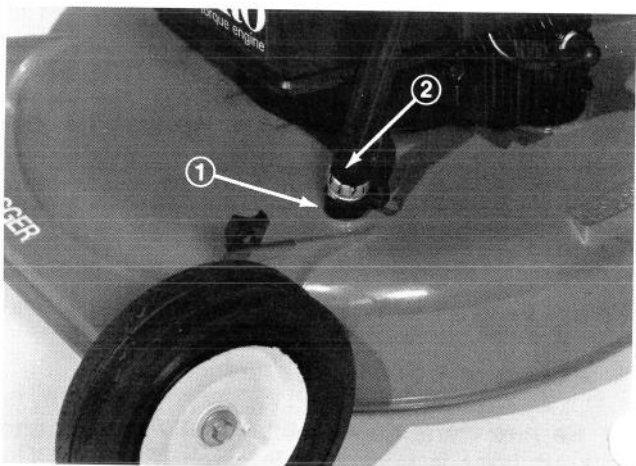

Figure 21
3. Start the engine. Insert end of hose, without nozzle, into wash-out port opening (Fig. 21). Using moderate water pressure, allow water and engine to run for approximately two minutes.